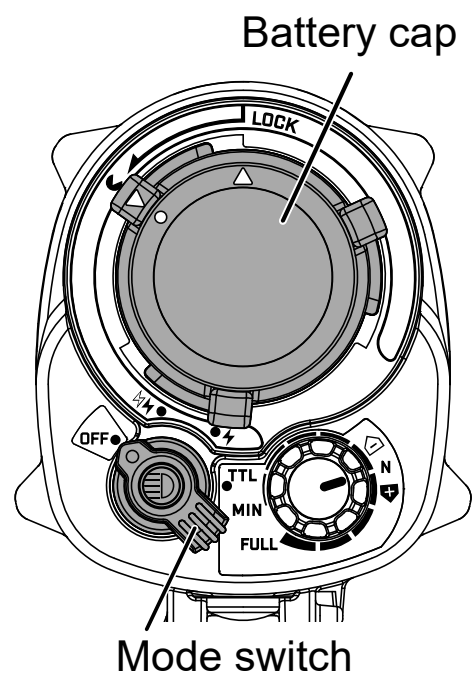

Fig.1
- 1 Make sure that the mode switch is in the OFF position (Fig.1)**
- 2 Turn the [ ▽ ] mark counterclockwise to the [ ⊙ ] mark position (Fig.1)**